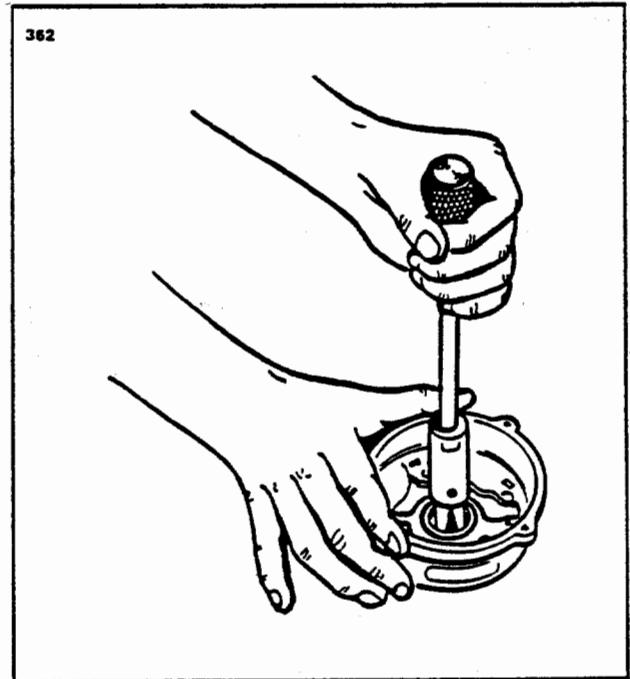

Figure 11-6. Removal of Slip Ring End Bearing
e. To remove the slip ring end bearing and grease seal, it will be necessary to have a hook type or impact type bearing puller as shown in Figure 11-6. Do not remove the bearing unless replacement is necessary.